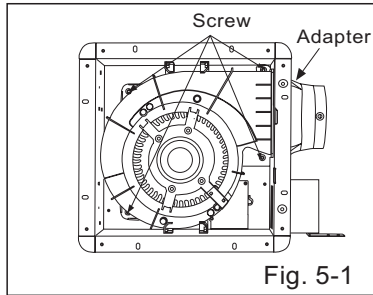

Fig. 5-1
1. Loosen 4 screws (but do not remove them from blower). (Fig.5-1)
- (1) Loosen 4 screws (but do not remove them from blower) as shown in Fig.5-1 of page 6.